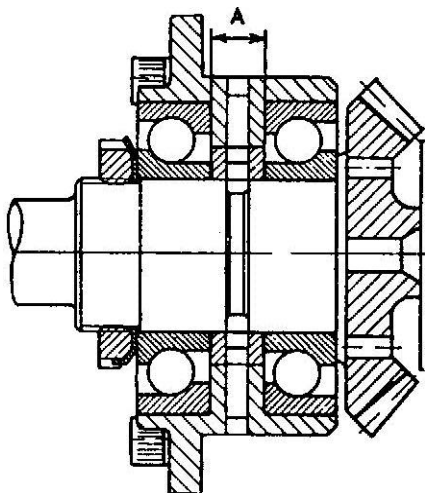
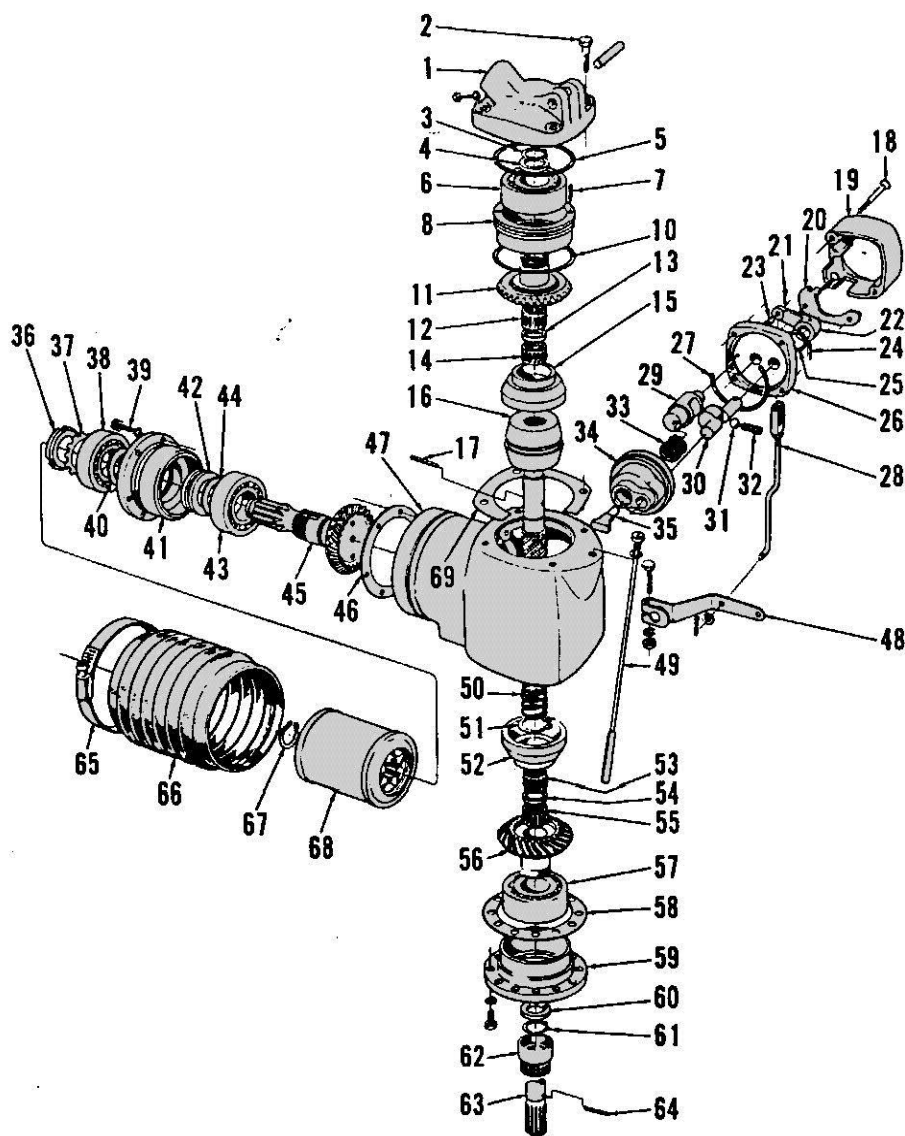

Fig. 2-8—To determine spacer size in forward bearing box, measure shoulder of bearing box (A) and proceed as outlined in text.
Fig. 2-10—Exploded view of upper gear housing with tapered friction type clutch.
To determine size of spacer (25), place spacer on flat surface and lay either bearing (24 or 28) on spacer with wide side of bearing inner ring contacting spacer. Zero a dial indicator on bearing outer ring then read difference in height of bearing inner ring. Repeat procedure with other bearing. Measure distance between bearing shoulders (A—Fig. 2-8). Add plus or minus bearing heights and add or subtract result from hearing shoulder dimension (A). This will give size of spacer needed. Shims (27) may be used if exact size of spacer is unobtainable. Assemble components 123 thru 30—Fig. 2-7) and wrap a cord with 2½-3¼ lbs. of weight attached to end, around bearing housing. Be sure to install bearings so that thin sides of inner races face each
R&R AND OVERHAUL. Disconnect shift linkage between boat and upper gear housing (47-Fig. 2-10) and between upper gear housing and intermediate housing 8--Fig. 2-4). Detach universal joint bellows. Separate upper gear housing and intermediate housing by removing two bolts at forward part of unit and two bolts at handle. Be careful not to damage oil tube (5) when lifting off housing.
Remove snap ring (67--Fig. 2-10) and pull universal joint off drive shaft and gear (45). Hold input shaft, engage a gear and unscrew oil pump drive pinion (62). Remove shift mechanism on side of upper gear housing. Unscrew bearing retainer screws (39) and pull components (36 thru 45) from housing. Remove shims (46). Unlock tab washer (37) and screw off round nut (36). Press drive shaft and gear (45), bearing (43) and spacer (42) from bearing retainer (41). Watch for shims (44). Press bearing (43) off drive shaft and gear (45) and press bearing (38) out of bearing retainer (41).
spacer. Zero a dial indicator on bearing outer ring then read difference in height of bearing inner ring. Repeat procedure with other bearing. Measure distance between bearing shoulders (A-Fig. 2-8). Add plus or minus bearing heights and add or subtract result from bearing shoulder dimension (A). This will give size of spacer needed. Assemble components (36 thru 45-Fig. 2-10) and wrap a cord with 2½-3¼ lbs of weight attached to end, around bearing housing. Be sure to in-